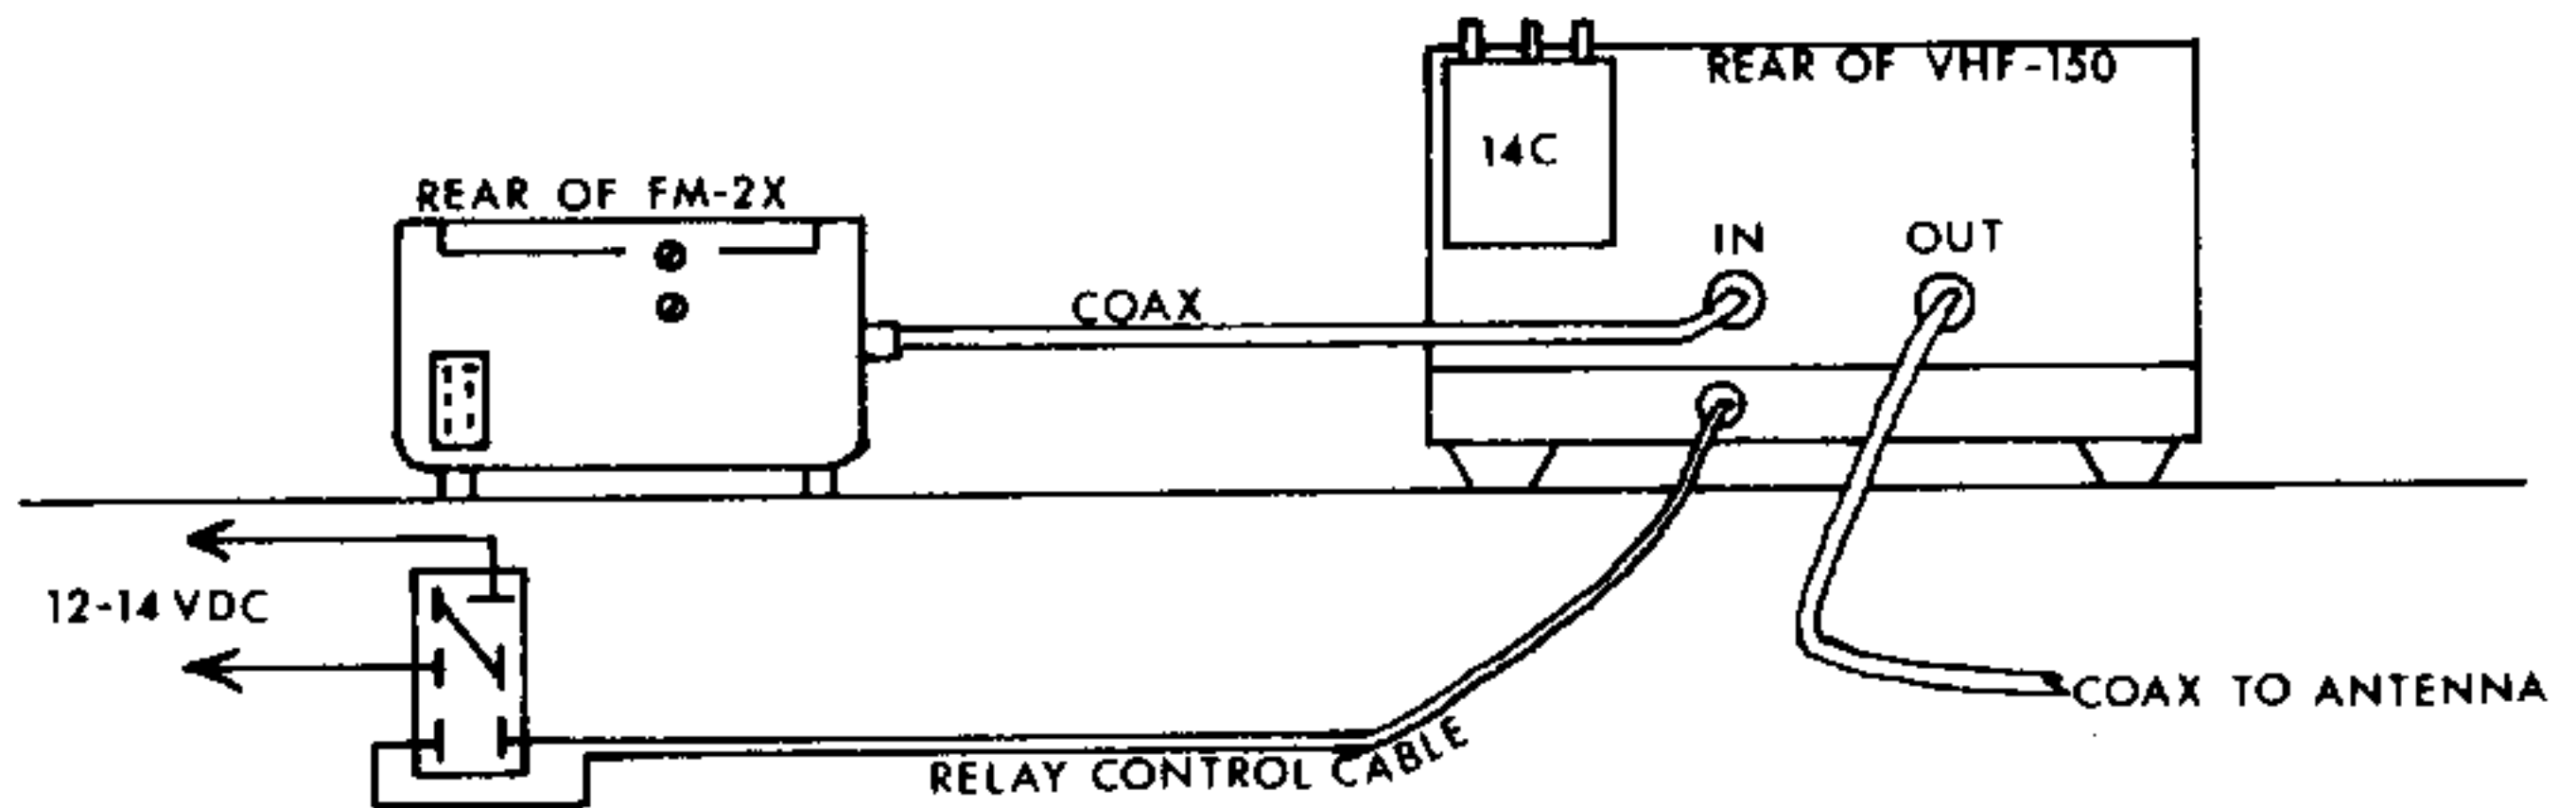

FIG. 4 - TYPICAL MOBILE INSTALLATION USING SWAN FM-2X
Refer to Figure 4 when making the installation. Connect a short length of coaxial cable (RG58U or RG8U) from the output of the FM-2X transceiver to the INPUT connector on the rear of the VHF-150. A PL-259 type connector is required at the amplifier end of the cable. This cable should be as short as practical and preferably not more than 5 feet in length. Remove the 117 volt AC supply from the FM-2X transceiver. Modify the 12 volt DC power cord supplied with the FM-2X, by connecting a two conductor cable (24 AWG stranded parallel cable or equivalent) to the two top pins of the plug (the pins having no wires already soldered to them). (See Figure 4.) Connect a phono plug on the other end. Plug the FM-2X power cord into the rear of the FM-2X. Connect the relay control cable into the relay control jack on the rear of the VHF-150. Install the Swan Model 14C DC converter to the rear of the VHF-150 using the 8-32 screw provided. Connect the VHF-150 to a 12 volt DC power source as shown in Figure 4. Connect the antenna coaxial cable to the OUTPUT connector on the rear of the VHF-150.
- ① Connect amplifier to antenna or dummy load.
- ② Connect relay control cable from Swan FM-2X transceiver to RELAY CONTROL phone jack on rear of chassis.
- ③ Connect output from Swan FM-2X transceiver to INPUT connector on rear of VHF-150 chassis.
- ④ Connect power cable to 117 volts AC (230 volts AC if VHF-150 is wired for 230 volts). If using Mobile, connect amplifier to 12 VDC. (See Figure 4.)
- ⑤ Turn PWR ON switch to "ON" (up) position. Indicator light located below meter will come on.
- ⑥ Allow 2 minutes for warmup of amplifier.
- ⑦ Place the channel switch on the Swan FM-2X to a channel that does not have a crystal installed, or disconnect the coaxial cable between the output of the FM-2X and the input to the VHF-150.
- ⑧ Place the BYPASS TURN-CW-FM SSB function switch in the SSB position
- ⑨ Depress the mike switch on the FM-2X microphone, and adjust the P.A. BIAS control on the rear of the amplifier until the meter reads 60 ma. of cathode current. Release mike switch.
- ⑩ Place channel switch on FM-2X to a channel that has a crystal installed, or reconnect coaxial cable between output of FM-2X and input of VHF-150.
- ⑪ Set LOAD control to 0 (minimum position).
- ⑫ Set DRIVE control to position No. 5
- ⑬ Place BYPASS TUNE-CW-FM SSB function switch in the TUNE-CW-FM position.
- ⑭ Depress mike switch and adjust GRID control for MAXIMUM reading on the meter.